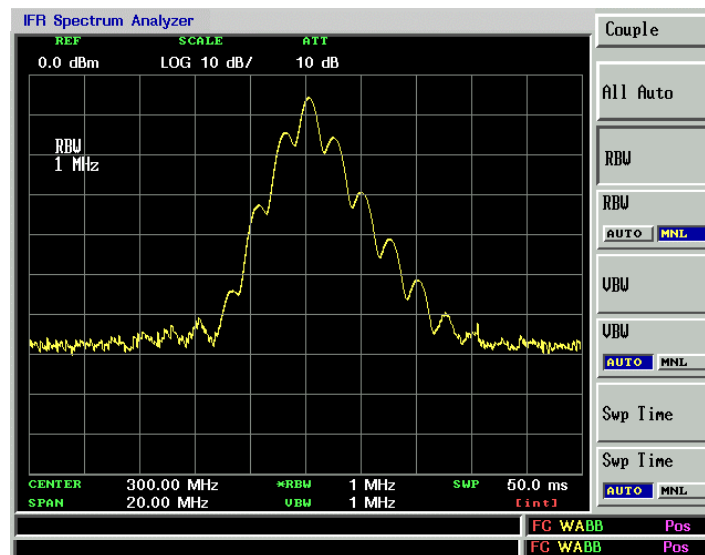

Figure 2-24. Viewing an AM Signal
7. Set the resolution bandwidth to 1 MHz by pressing **CPL**, **RBW [MNL]**, **RBW**, 1 MHz. See Figure 2-24.